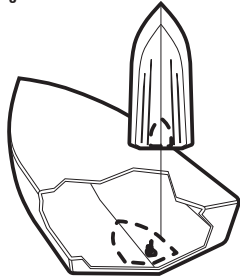

Figure 28
- As a general rule, the faster the boat can travel, the further aft and closer to the centerline of the hull the transducer has to be located in order to remain in contact with the water at high speeds (Figure 28).